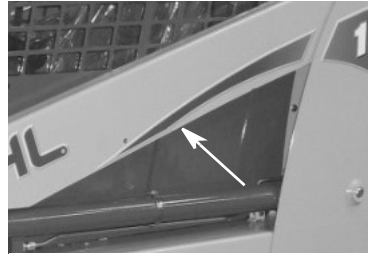

Figure 5 Lift Arm Support Device In Storage Position
3. Remove the lift arm support device from its storage location (Figure 5).
4. To store the support device, remove it from the lift cylinder rod and return it to its storage location (Figure 5). Secure the support device under the lift arm with the slide latch.